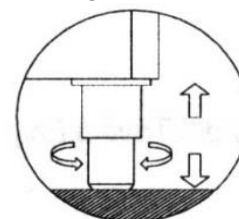

Figure 2 – adjusting feet
- Position the machine with the aid of a spirit level. If necessary, adjust the levelling feet on the metal base (on models fitted with adjustable feet) (Figure 2 – adjusting feet).